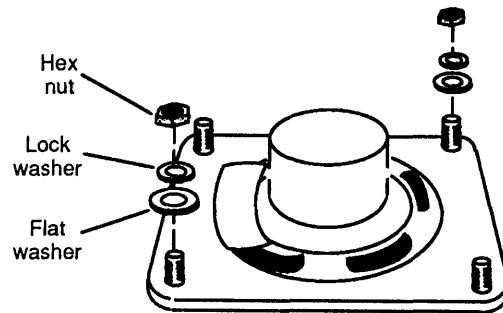

Figure 4-21 Securing the Speaker to the Tray Assembly
3. Place two washers and a hex nut on two of the studs that are diagonally opposite each other. Using a 5 mm nut driver or open-end hex wrench, tighten the hex nuts on each stud to secure the speaker to the tray assembly. Refer to Figure 4-21.